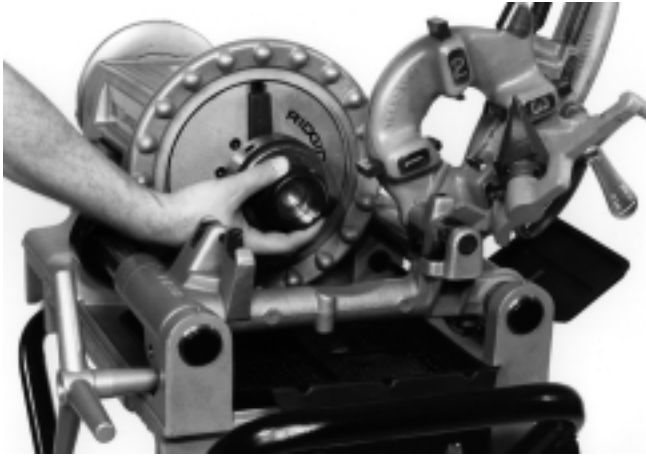

Figure 17 – Installing Nipple Chuck Body and Adapter
4. Select proper size nipple chuck adapter and screw into nipple chuck (Figure 17) by hand. Tighten with wrench provided with nipple chuck.